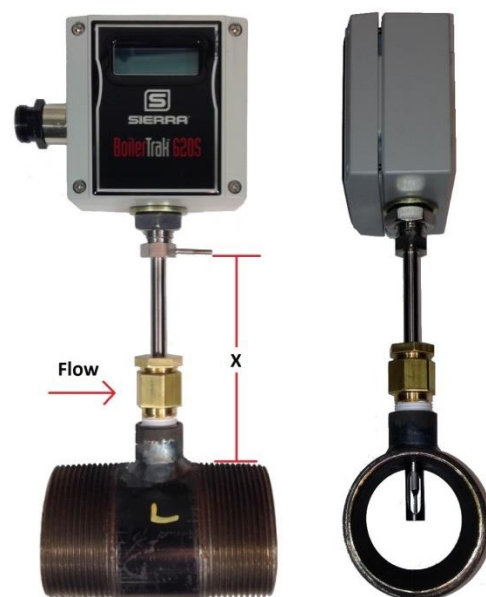

Figure 5: Meter Inserted into Pipe
- Insert the meter sensing tube into the packing gland. Using Table 1 and Figure 5, center the meter's sensing element in the pipe by setting distance "X" (distance from the outer diameter of the pipe to the bottom of the pointer). This can be done carefully with a tape measure. Ensure that the pointer on the flow meter is pointing in the direction of flow.